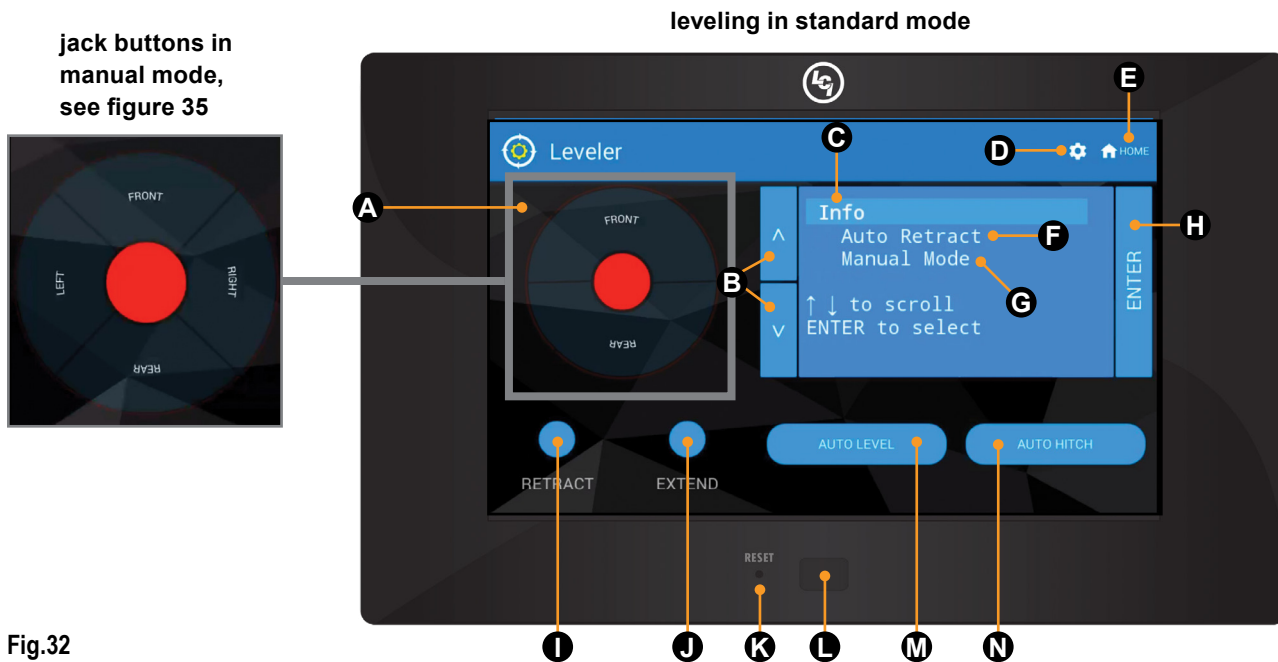

Fig.32
A	Jack Buttons - Select FRONT, REAR, RIGHT and LEFT jacks to be operated depending on mode. Jacks available to be operated will be highlighted in blue. Only the Power Tongue Jack can be operated in Standard Mode (Fig.32). In Manual Mode (Fig.32), all leveling jacks are available to be operated (No Power Tongue Jack operation available).
To reach Standard Mode (Fig.32) for leveling:
2. The screen will show the system menu (Fig.32) for Standard Mode. The Power Tongue Jack can be extended/retracted in Standard Mode. Front and rear jacks cannot be operated in standard mode.
1. While in Standard Mode (Fig.32), use the arrows (Fig.32B) to scroll to Manual Mode (Fig.32G). Press ENTER button (Fig.32H).